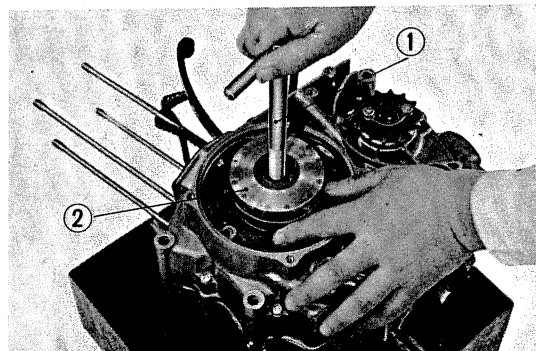

Fig. 77 **Rotor removal**
③ Cam chain guide
- 2) Remove generator mounting bolts and remove the rotor assembly. (Fig. 77)